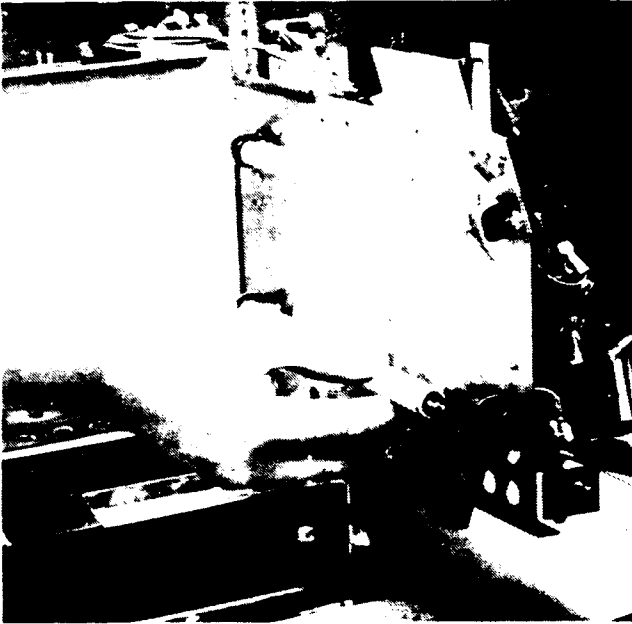

Figure 4-21
- 5) Remove and replace the lamp. See Figure 4-21.